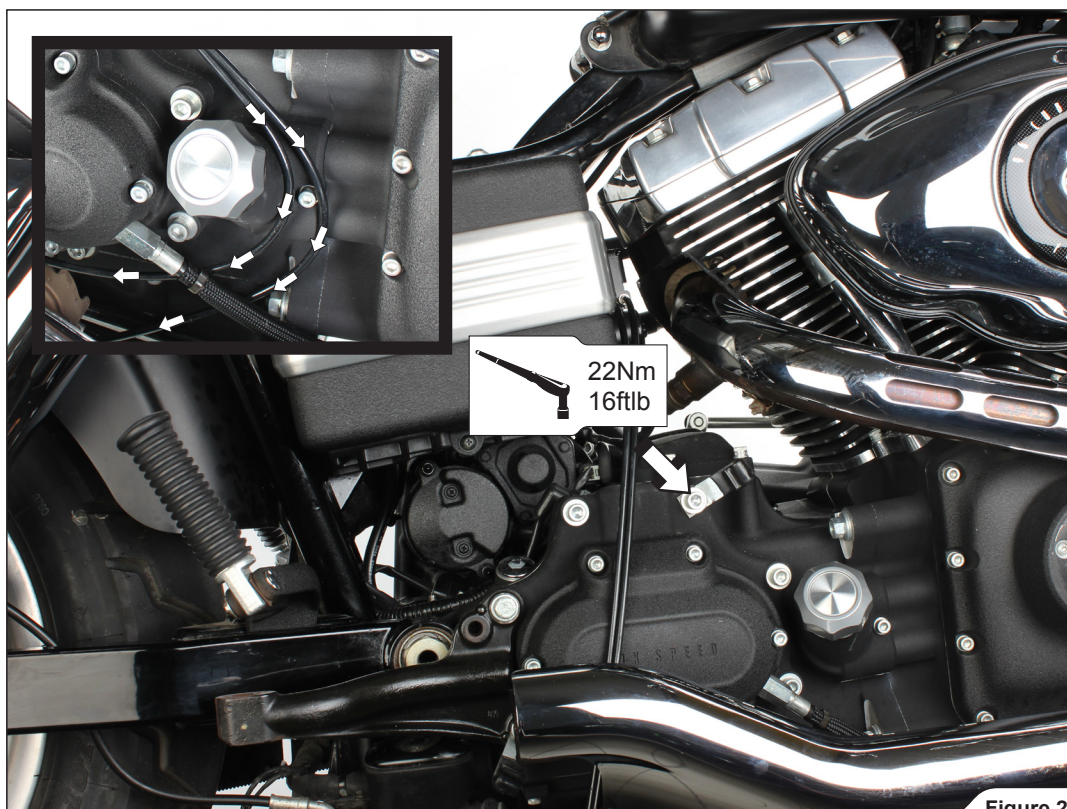

Figure 26
5. Remove and reinstall the cable bracket to the marked position and tighten with specified torque (Figure 26).